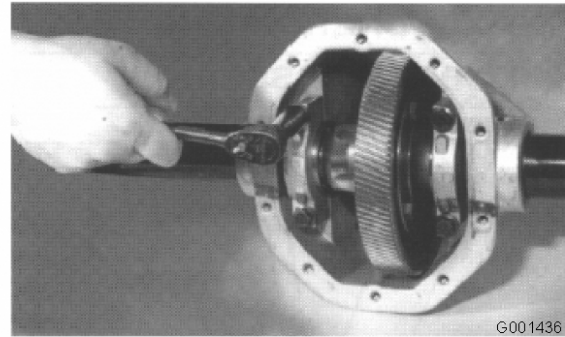

Figure 8
4. Remove the four bearing cap screws and remove the bearing caps (Figure 8).